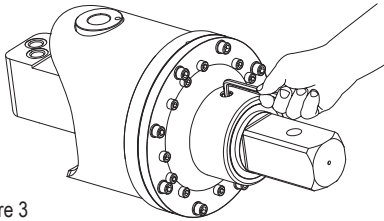

Figure 3
- Lay the drive unit flat on the ground with the oil fill bung facing up. Using an 8mm (0.31") Allen key remove the bung. To drain oil, turn the drive until the hole is facing down. Allow to drain until all oil has been removed (Figure 3).
3. Smear multipurpose grease to the inside of the new shaft seal (Figure 3).